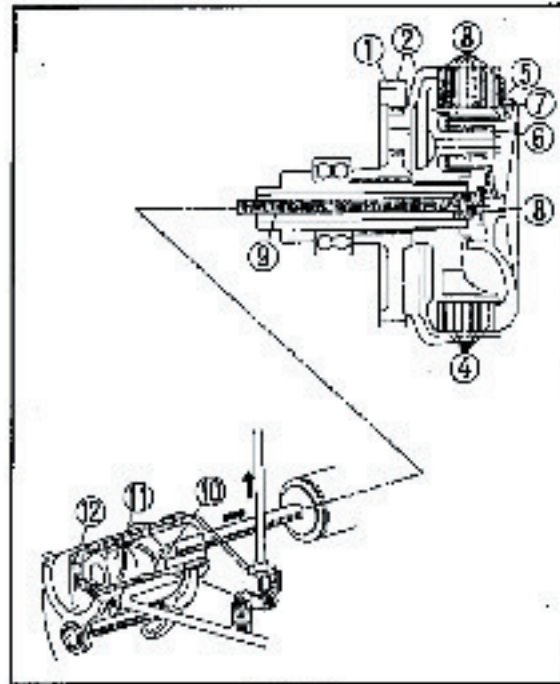
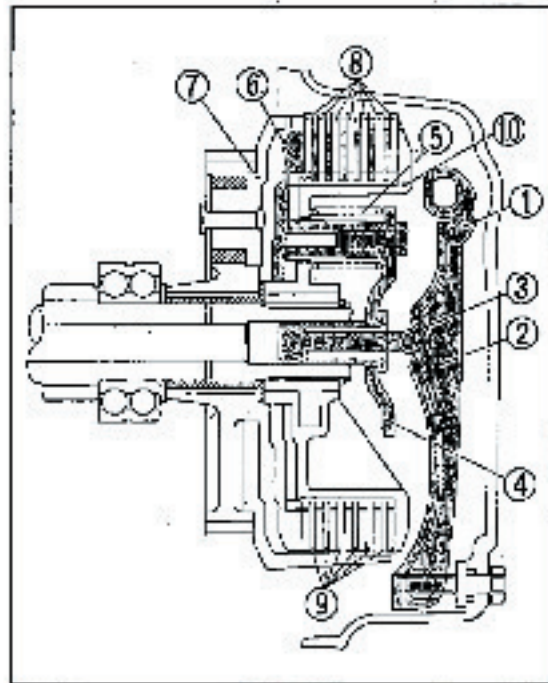

Fig. 334
Fig. 335
<p>Refer to Fig. 334 on page 115.</p> <p>The clutch connects and disconnects the engine from the transmission.</p> <p>As shown in Fig. 334, the clutch plates ① ("drive plates"), which are capable of sliding axially on the clutch center ②, are "sandwiched" between the friction discs ③ ("driver discs") engaged in the clutch outer ④. In normal engaged condition of the clutch, the pressure plate ⑤, upon which the clutch springs ⑥ force is acting, presses the stacks of the discs and plates against the clutch outer. Under this condition, the engine power is transmitted through the primary drive gear ⑦, clutch outer, friction discs, plates and clutch center to the transmission main shaft. As the clutch lever is squeezed to disengage the clutch, the clutch lifter ⑧, connected to the clutch cable, is retracted and forced out. This clutch ball force is transmitted through the #10 steel ball ⑨, clutch lifter rod ⑩ and clutch lifter joints piece ⑪ to the clutch pressure plate to compress the clutch springs producing clearance between the friction discs and plates. Now the face pressure on the friction surfaces of the power transmitting parts is reduced to zero, resulting in clutch disengagement.</p>	<p>Refer to Fig. 335 on page 116.</p> <p>As shown in the figure, the clutch plates ①, which are capable of sliding axially on the clutch center ②, are sandwiched between the friction discs ③ engaged in the clutch outer ④. In normal engaged condition of the clutch, the pressure plate ⑤, upon which the clutch springs ⑥ force is acting, presses the stacks of the discs and plates against the clutch outer. Under this condition, the engine power is transmitted through the primary drive gear, clutch outer, friction discs, plates and clutch center to the transmission mainshaft. As the clutch lever is squeezed to disengage the clutch, the clutch arm connected to the clutch cable operates and the clutch lifter cam ⑦ rotates to cause the clutch adjusting lever ⑧ to be forced against the clutch lifter rod ⑨. This force is transmitted through the clutch lifter plate ⑩ to the clutch center, producing clearance between the friction discs and plates. Now the face pressure on the friction surfaces of the power transmitting parts is reduced to zero, resulting in clutch disengagement.</p>